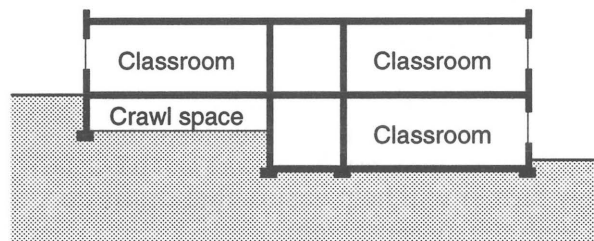
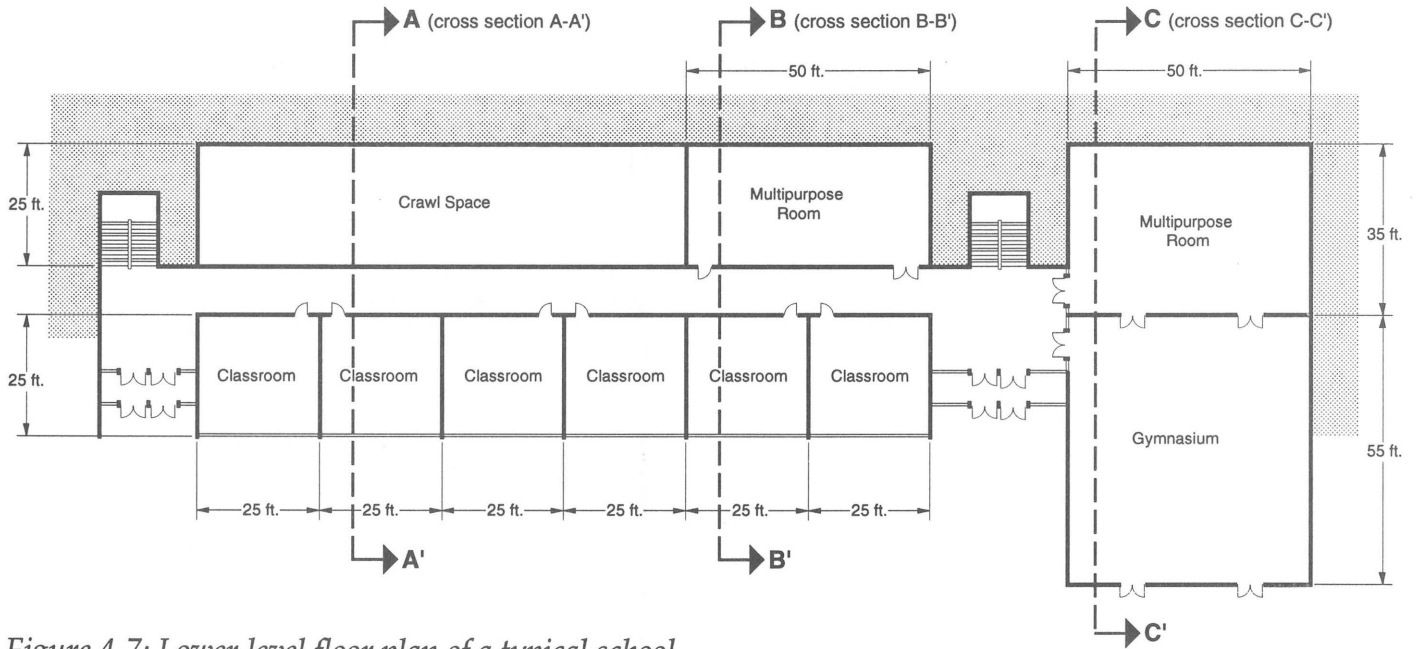

Figure 4-4: Cross section A-A' of part of a typical school.
Figure 4-7: Lower level floor plan of a typical school.
A typical two-level school is shown in cross section and floor plan drawings on this and the facing page. A **cross section** shows a side view of a building that has been cut through to reveal what is inside. A **floor plan** shows a top view of a building with the roof taken off. If it is a multistory building, the plan view looks at a particular floor with all the floors above removed. The three cross sections on this page (Figures 4-4, 4-5, and 4-6) correspond to the section lines on the two floor plans (Figures 4-7 and 4-8). To assist you with determining the appropriate number of detectors per school room, dimensions are given so that the floor area of a particular room can be calculated if necessary.
See Figure 4-7 and 4-8 for the location of these cross sections on the building floor plan.
The dashed lines on this plan correspond to the cross sections in Figures 4-4, 4-5, and 4-6.
*Correct answer for Figure 4-7: Lower level plan of a typical school showing placement of detectors.*